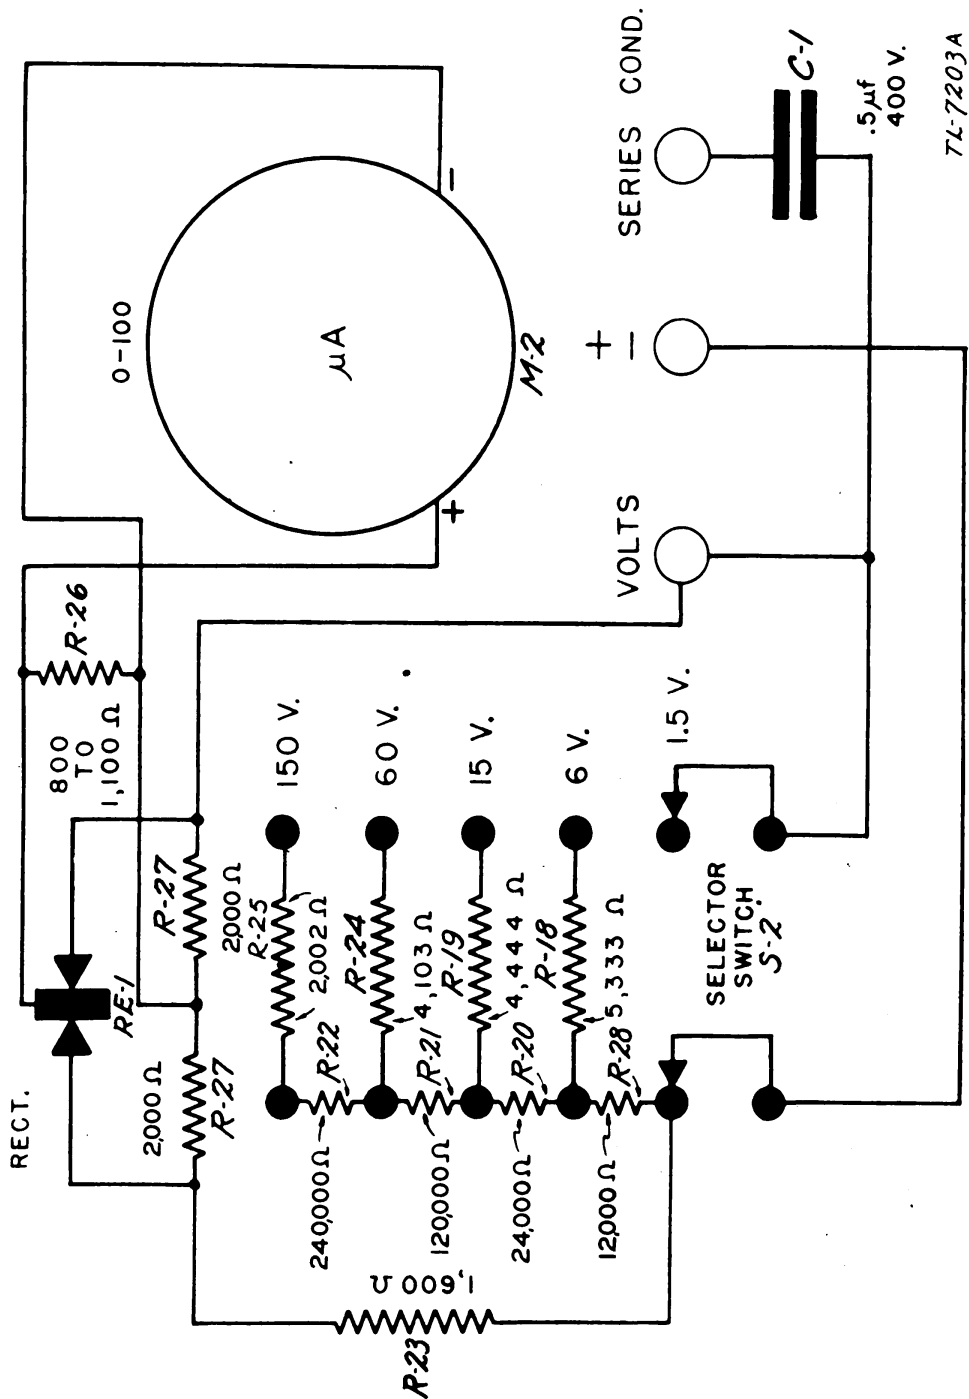

FIG. 32. MODEL 103 AND MODEL 650-SC OUTPUT METER, SCHEMATIC DIAGRAM
40. MODEL 103 OUTPUT METER. Selector switch (S-2) connects the various shunt and multiplier resistors for the range being used (fig. 32). The rectifier (RE-1) converts a-c voltage into the d-c voltage which moves the meter pointer. The SERIES COND. jack places capacitor (C-1) in series with the circuit to keep high d-c voltage out of the rectifier and meter.